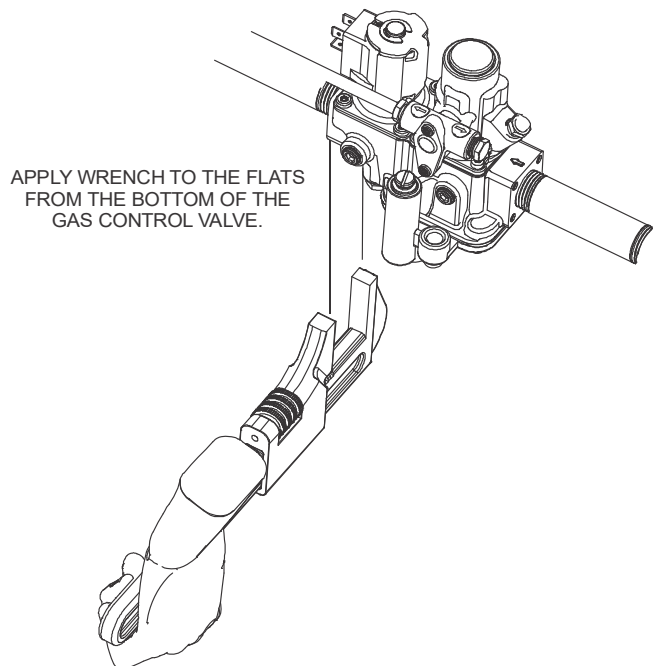

Figure 3: Proper Use of Wrench on Gas Control
10. Connect pipe to gas control inlet and outlet. Use a wrench on the square ends of the control. If a flange is used, place the wrench on the flange rather than on the control. This process should be used for both the installation and removal of the valve in a gas system. (see Figure 3).